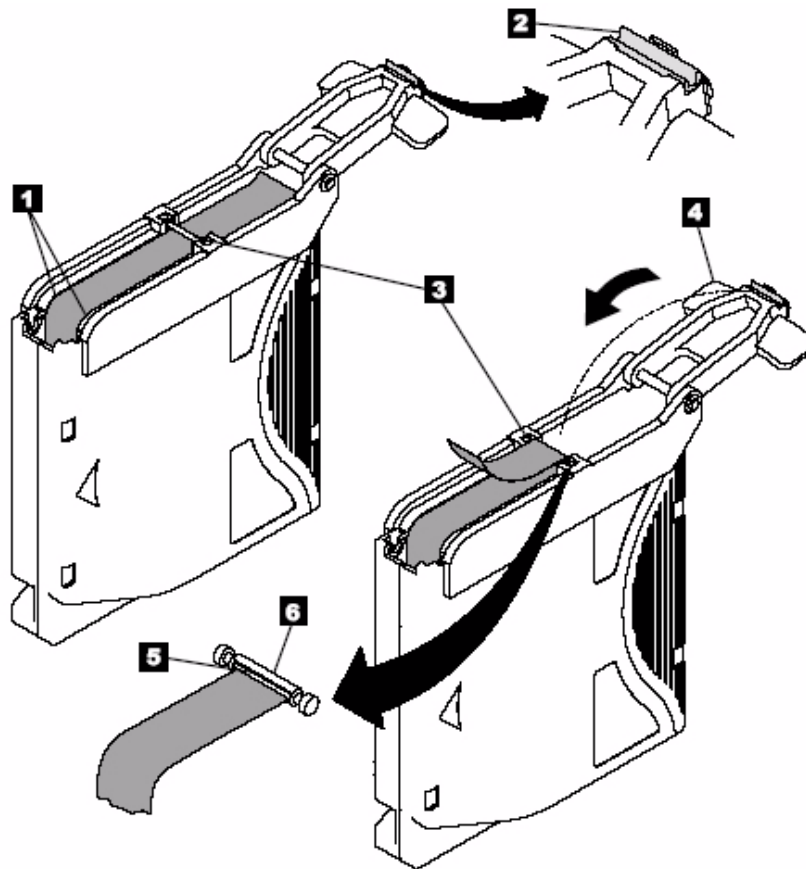

Figure 4-11 Attaching the leader pin to the tape
7. Position the tape in the alignment groove of the leader pin attach tool (see ❶ in Figure 4-11).
8. Place a new C-clip into the retention groove ❷ (Figure 4-11) on the leader pin attachment tool and make sure that the clip's open side faces up.
9. Place the leader pin (from step 6 on page 33) into the cavity ❸ (Figure 4-11) of the leader pin attach tool.
10. Fold the tape over the leader pin and hold it with your fingers (see Figure 4-11).